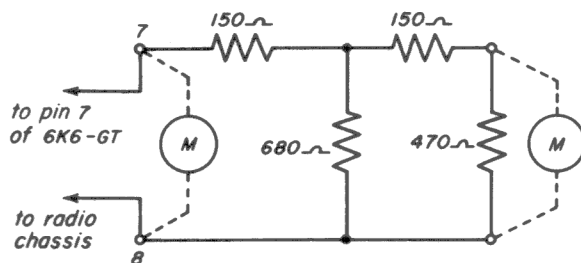

Fig. 34-9
Step 2. Connect a wire from terminal 8 of the resistor board to the chassis of your radio. Connect another wire from pin 7, the filament pin of the 6K6 tube in your radio, to terminal 7 of the resistor board, as shown in Fig. 34-9. In this way, you apply 6 volts a.c. across the input terminals of your 6-db pad.